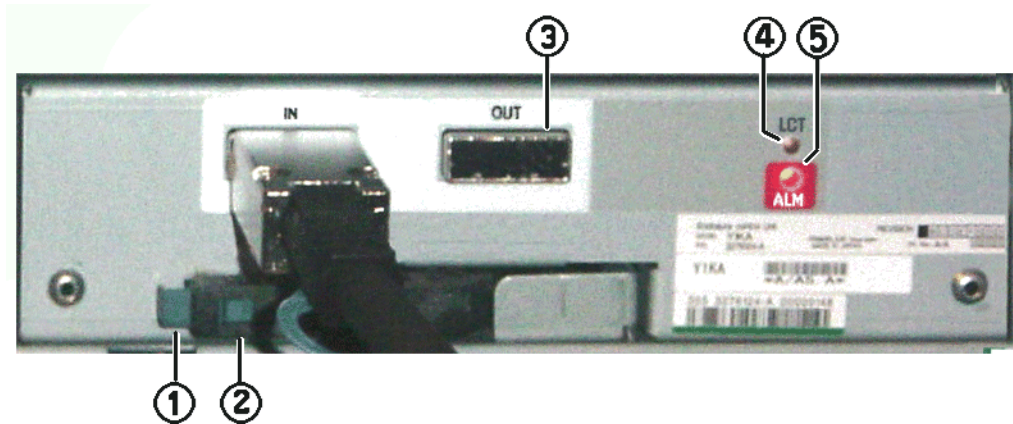

Figure 4-16: ENC Unit Controls and Connectors
- Push the blue lock button on the end of the lock lever inward to unlock the lever. Then pull the lever outward from the ENC unit. As you do this, the lever will pull the ENC unit out of the unit and unplug the unit from the connectors inside the expansion unit. The ENC unit will now be about 1/2 inch (12 mm) out of the unit. See Figure 4-16.